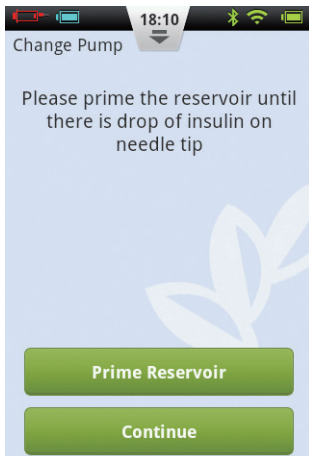

Figure 75
- 4 Holding the pump in the orientation shown in Figure 76, press the Prime Reservoir button (Figure 75). The plunger will begin to move slowly. Continue to press the button until you see a drop of insulin on the needle tip (Figure 76). Now press Continue.